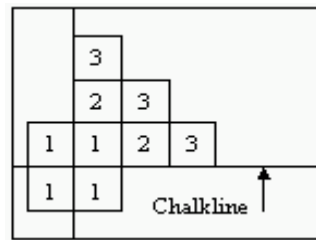

Figure 2
6. Use the chalklines as a guide for lining up the edges of the modules. Using the pyramiding technique, install one quadrant at a time, following the numerical sequence as shown in Figure 2 below.